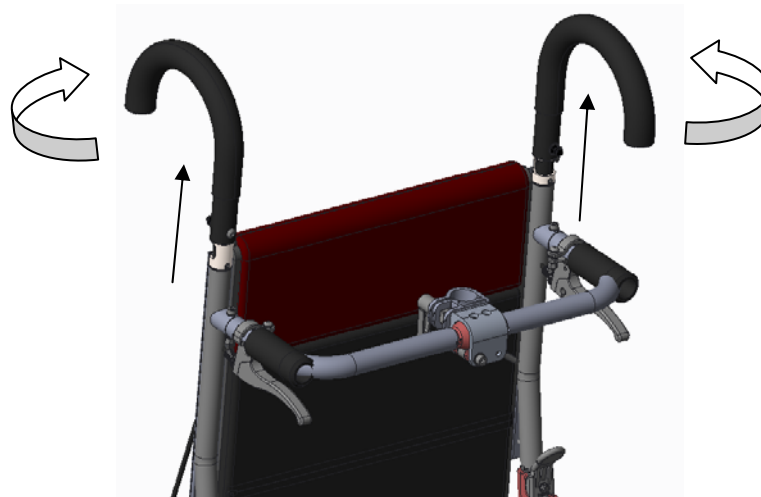

Fig. 1-18
(1) Pull up the J-Hook handles. (See Fig. 1-18)
(2) Swing the J-Hook handles leftward/rightward. (See Fig. 1-18)